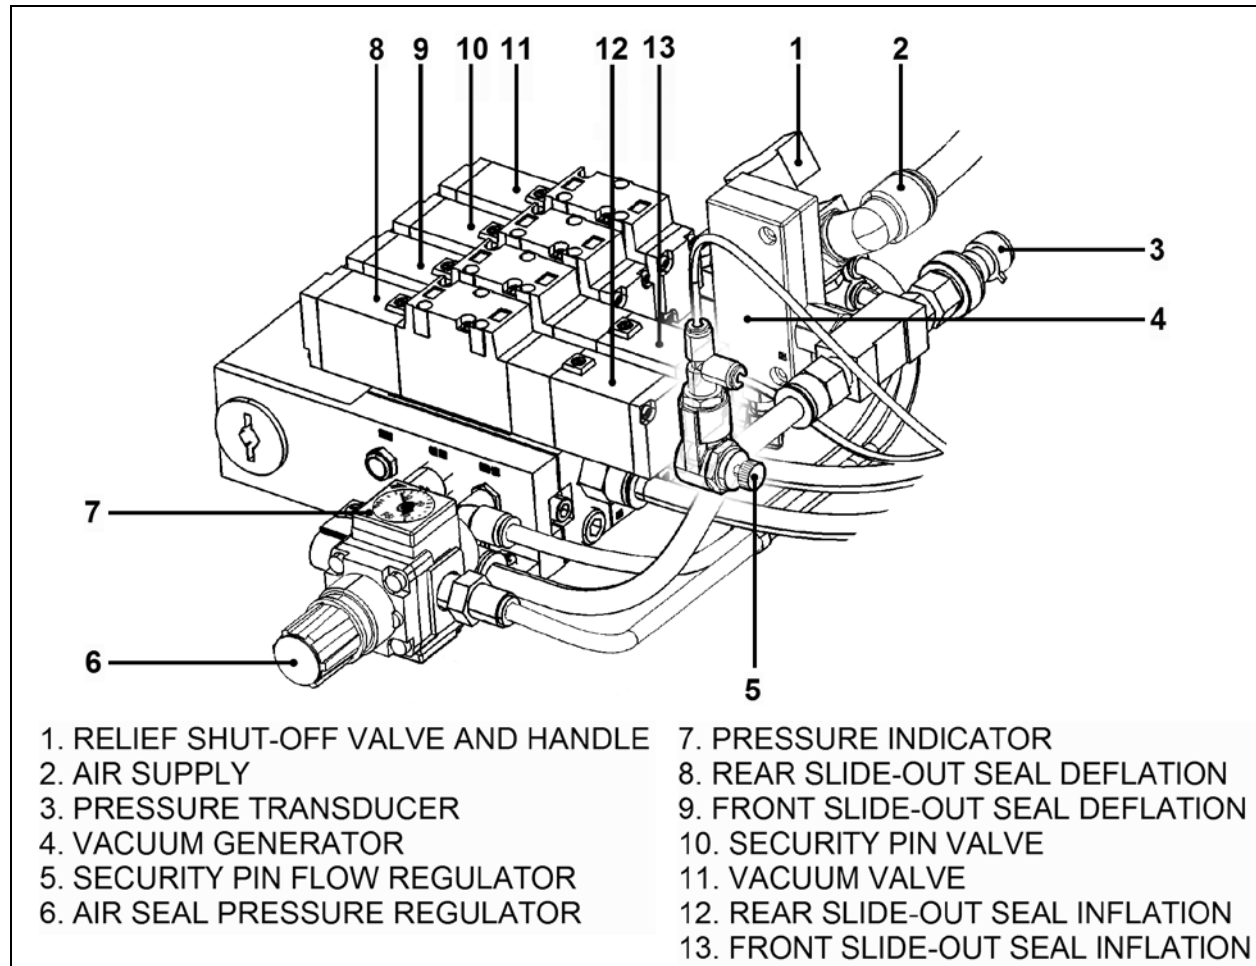

FIGURE 32: PNEUMATIC COMPONENT PANEL
The supply line for the pneumatic component panel (Item 2, Figure 32) is connected to the air
Make sure the inflatable seal is deflated when manually moving the slide-out during service maintenance. Deflate inflatable seals completely by turning the relief shut-off valve handle clockwise (see Figure 32).
1. Fully deflate the air seal by turning the shut-off valve clockwise (Item 1, Figure 32). Make sure the pressure indicator is at "0 psi".